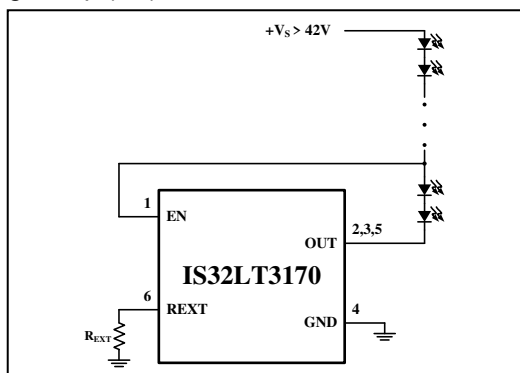

Figure 34 High Input Voltage Application Circuit
When driving a long string of LEDs whose total forward voltage drop exceeds the IS32LT3170 V_{BD_OUT} limit of 42V, it is possible to stack several LEDs (such as 2 LEDs) between the EN pin and the OUT pins 2,3, and 5 so the voltage on the EN pin is higher than 5V. The remaining string of LEDs can then be placed between power supply $+V_S$ and EN pin, (Figure 34). The number of LEDs required to stack at EN pin will depend on the LED's forward voltage drop (VF) and the $+V_S$ value.